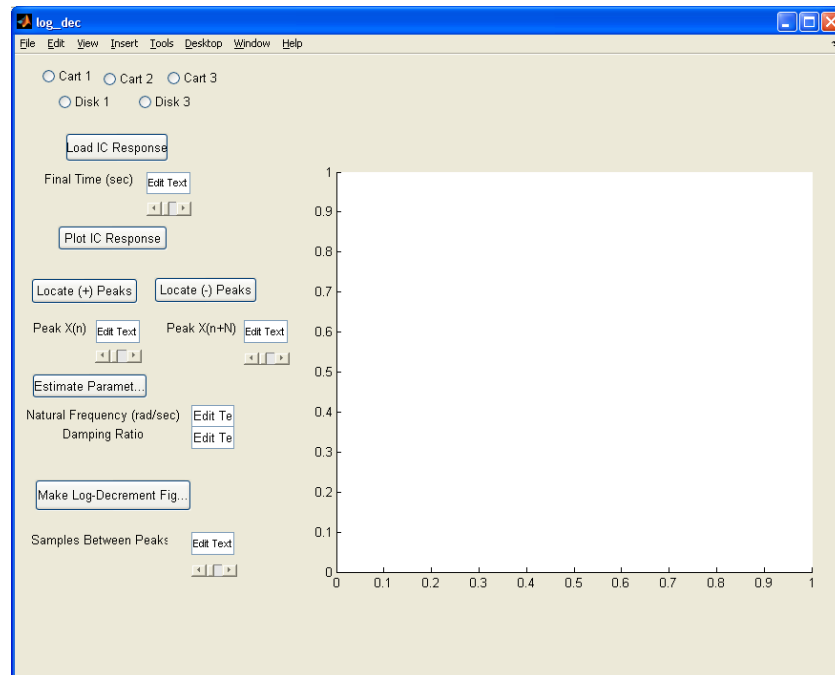

Figure 8: Model210\_Openloop/ECP model 210
- The program **log\_dec** produces the GUI shown in Figure 8